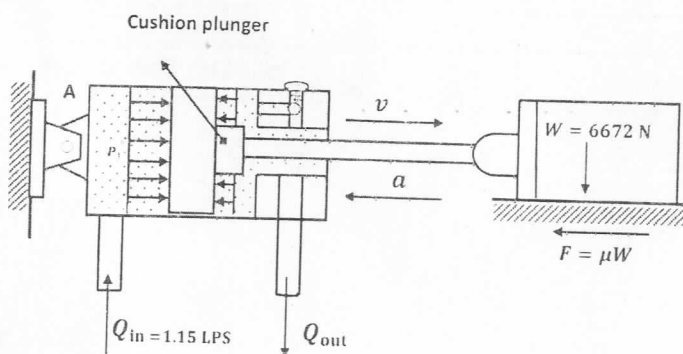
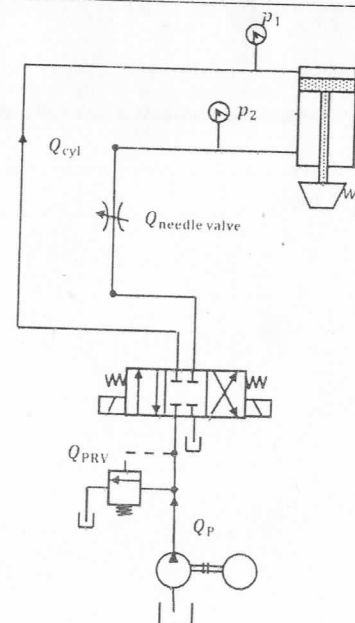

Fig. 1 Cylinder with cushioning device
Fig. 2 Circuit for question (2\_3)
**Question (1)**
3. A pump delivers oil at a rate of 1.15L/s into the blank end of the 76.2mm diameter hydraulic cylinder. The piston contains a 25.4mm diameter cushion plunger that is 19.05mm long. The cylinder drives a 6672N weight which slides on a flat horizontal surface having a coefficient of friction ( $\mu$ ) equal to 0.12, see Fig. 1. The pressure relief valve setting equals 51.7bar. Find the maximum pressure developed by the cushion.
**Question (2)**
3. The system shown in Fig. 2 has a hydraulic cylinder with a suspended load  $W$ . The cylinder piston and rod diameters are 50.8mm and 25.4mm, respectively. The pressure-relief valve setting is 5150kPa. Determine the pressure  $P_2$  for a constant cylinder extension speed when: